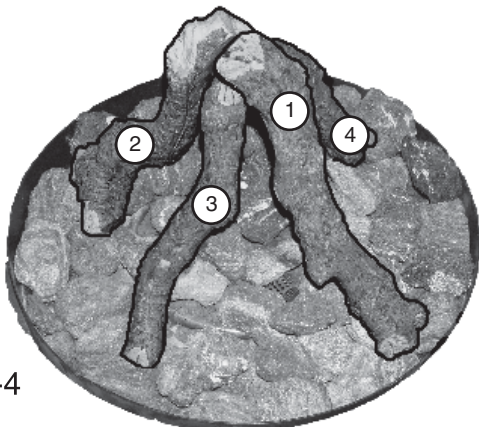

Fig. 18-4
1. Place the ends of three or four logs into the Volcanic Stones with their flat sides facing inward and their tops pointed upward. Then lean their other ends against each other at an angle in the center of the fire ring (see Fig. 18-4).